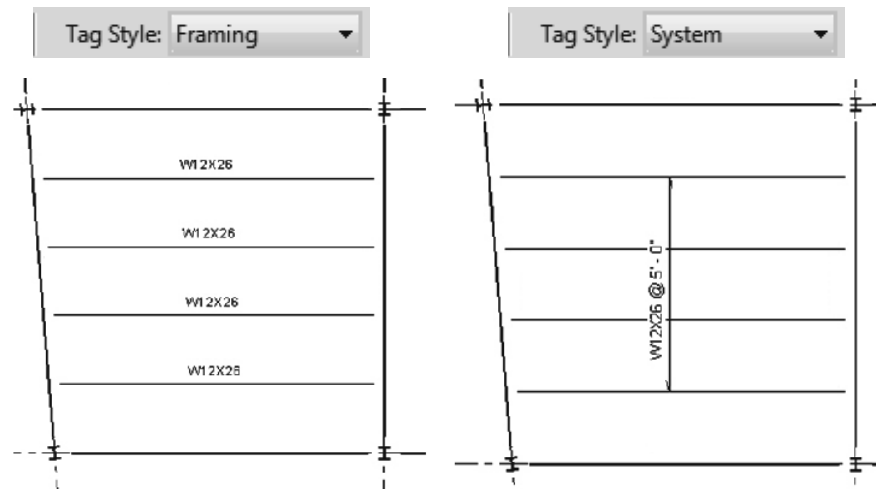

Figure 7-6
3. When  (Tag on Placement) is selected, in the Options Bar, set the *Tag Style* as shown in Figure 7-6.